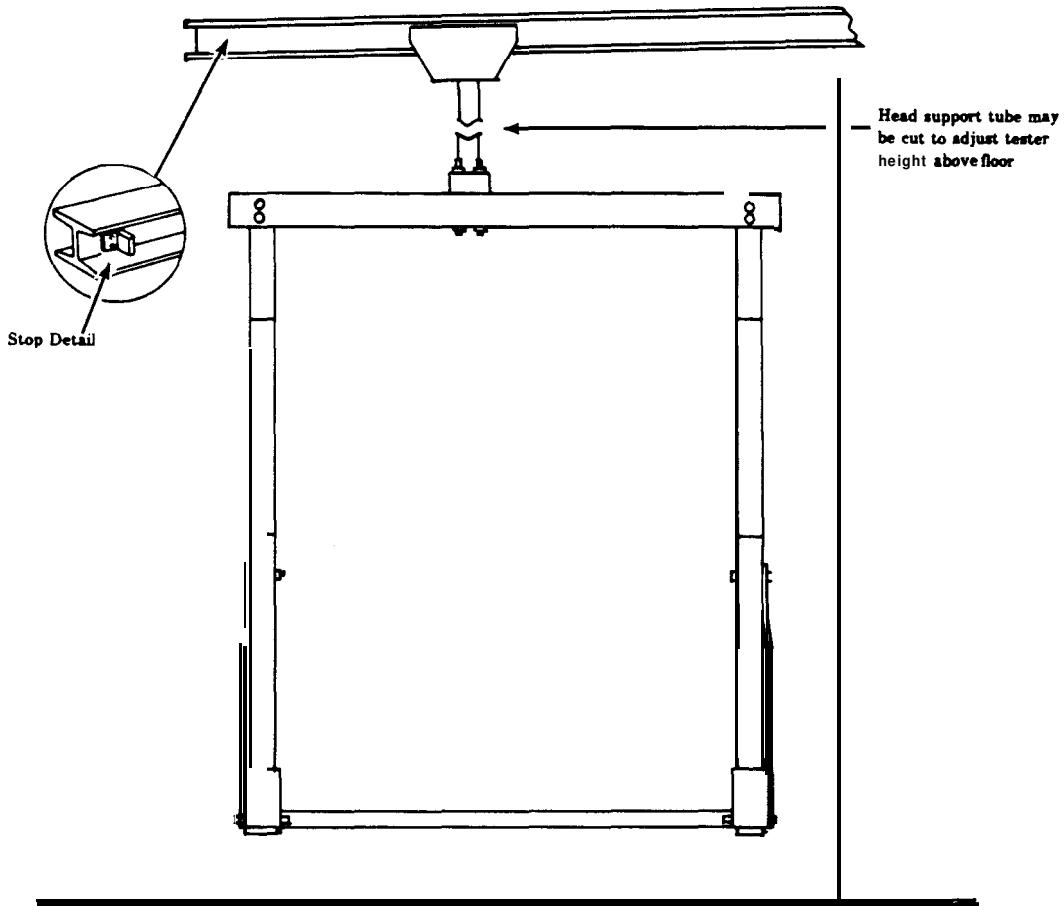

FIGURE 2
The HSK-40 is designed for use with a standard 5" I beam with a 3" flange width. This typical beam weighs approximately 10 pounds per foot of length. A larger beam may be used. However, it will then be necessary to shim the trolley to accommodate the greater flange width. The height at which the beam should be mounted above the floor is determined by the following but should not exceed 140" from floor to bottom of flange: See Figure 2
6. Drill two 7/16" holes in the each end of the I-beam as shown in Figure 2.
7. Using the items 11, 12, 13, 14, and 15, mount the end stops on each end of the I-Beam. See Figure 2.